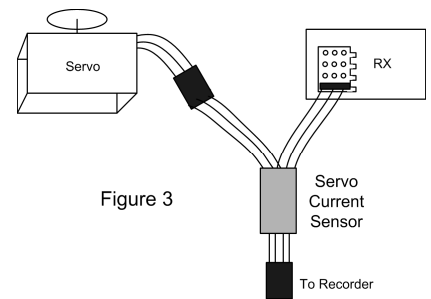

Figure 3
**Ensure that your setup will not draw more than this, and make sure to test the setup on the bench before flying to make sure the sensor wires do not overheat!** To measure the current draw of a single servo, simply connect the Sensor as shown in Figure 3, using the attached universal servo connectors. To measure the current draw of all your servos and your receiver at the same time, simply connect the sensor between your BEC/RX Battery and your receiver (note the amperage limitation above!).